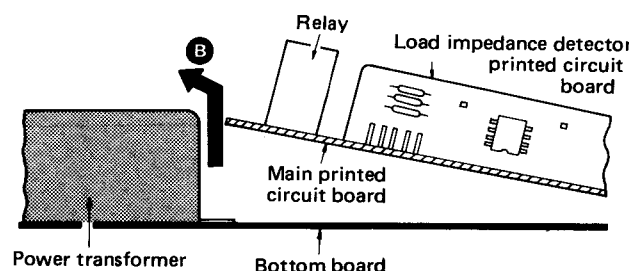

Fig. 14
8. Lift the main printed circuit board on the power transformer side in the direction of the arrow (B) (Fig. 14) to remove it.